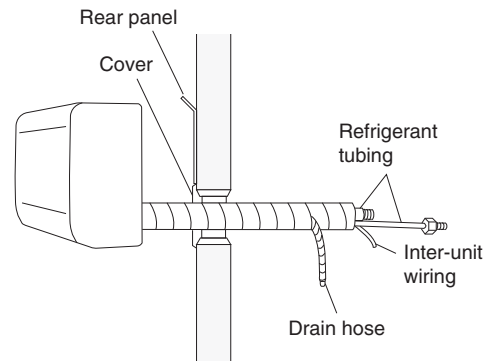

Fig. 3-24
- (1) Shape the refrigerant tubing so that it can easily go into the wall hole. (Fig. 3-24)